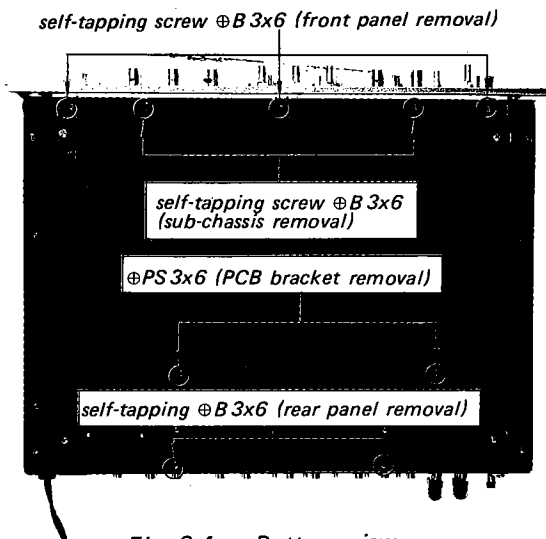
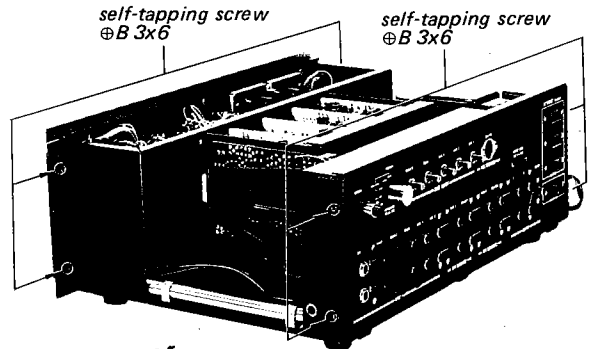

Fig. 2-4. Bottom view
Fig. 2-5. Front-subchassis and rear panel removal
5. Remove the three self-tapping screws (⊕ B 3x6) at the front bottom of the chassis as shown in Fig. 2-4. This frees the front panel.
2. Remove the two self-tapping screws ($\text{@ B } 3 \times 6$) at each side of the chassis (see Fig. 2-5) and two self-tapping screws ($\text{@ B } 3 \times 6$) at the front bottom of the chassis as shown in Fig. 2-4. This frees front subchassis.
2. Remove the two screws (⊕ PS 3×6) securing the PCB mounting bracket to the chassis from the bottom as shown in Fig. 2-4. This frees the bracket, and now the PCB's can be simply pulled out.
2. Remove the two self-tapping screws (⊕ B 3×6) at each side of the rear panel as shown in Fig. 2-5.
3. Remove the two self-tapping screws (⊕ B 3×6) at rear edge of the bottom as shown in Fig. 2-4. This frees the rear panel.